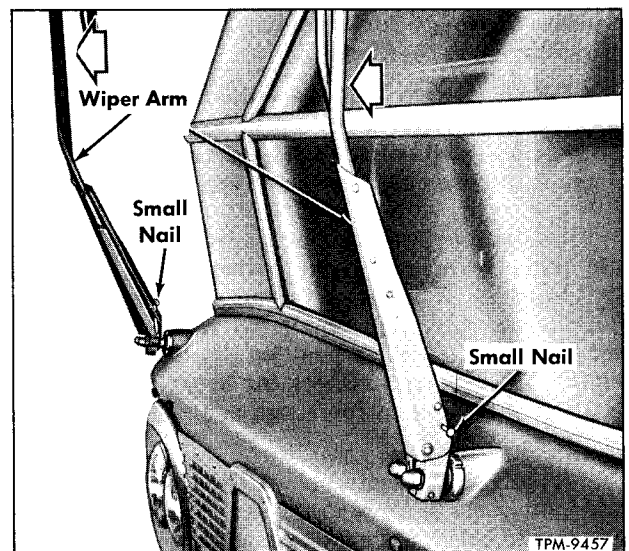

Figure 14—Wiper Arms Retained From Windshield
Operation of wipers can be checked without wetting windshield glass by inserting a small nail into holes at base of each wiper arm after pulling arms forward (fig. 14). This will retain blades from contacting glass.
3. Reinstall arm on pivot shaft. Force arm and blade across wetted glass or retain arms outward with nail (fig. 14) and check angle of blade.